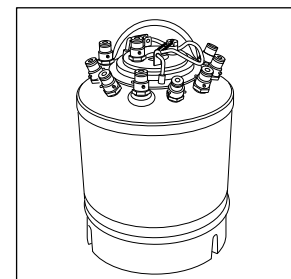

Fig. 22
1. Fill the cleaning container (Fig. 22) with water.
3. Connect all basic ingredient tubes/beverage tubes to the cleaning container (Fig. 22).